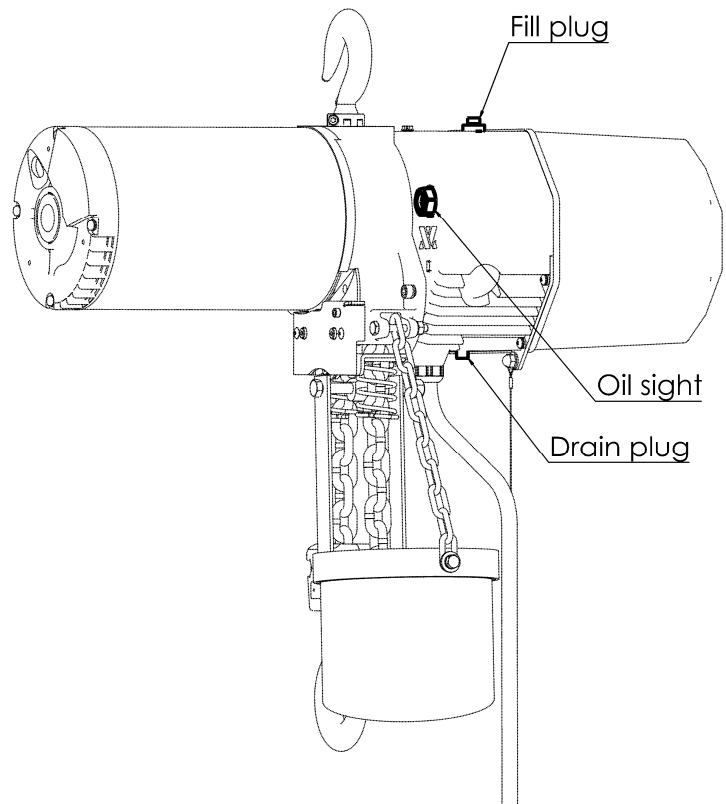

Figure 6.3.2
7. Tilt the hoist (Figure 6.3.2) and pour 1 liter of **Meropa EP 220 (synthetic)** or equivalent. The oil will not leak if the hoist is properly tilted.
2. Place an empty container with a capacity over 1.2 liter under the drain plug (Figure 6.3.2). Unscrew the drain plug using a 3/16" hexagonal key.